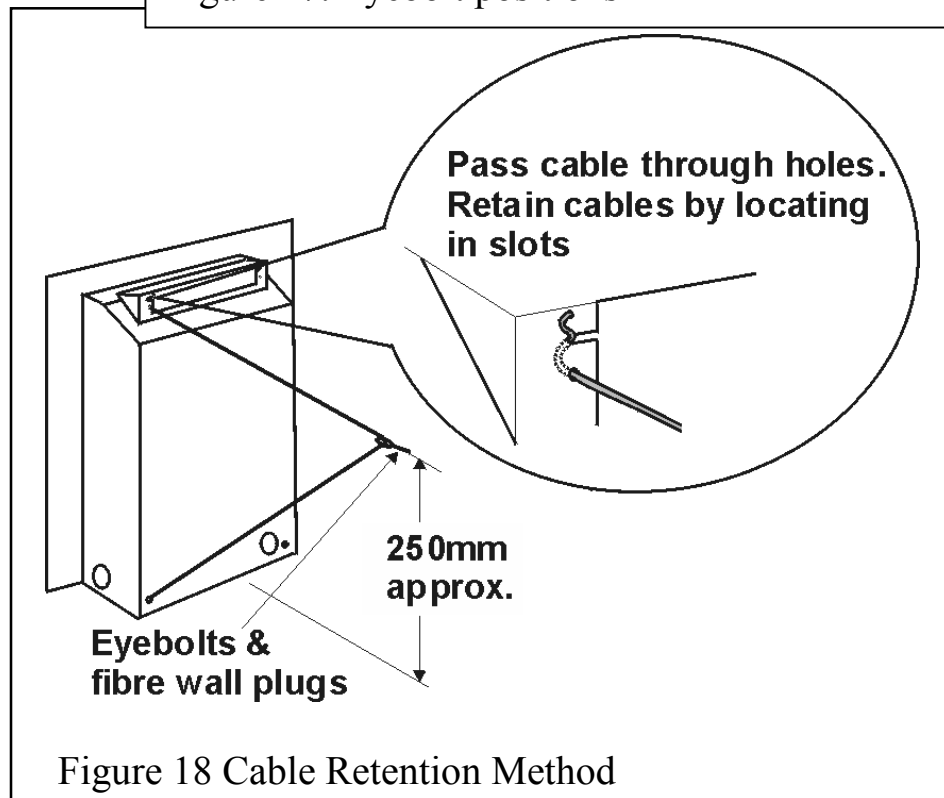

Figure 18 Cable Retention Method
- Assemble one end of a cable through the small round hole at the side of the appliance rear flue opening and lock it by positioning the cable end in the adjacent slot. Pass the other end of the cable through the eyebolt & then through the slotted hole near the lower rear corner of the appliance (See figure 18) Fit an adjuster as shown in figure 19. Repeat with the second cable at the other side.